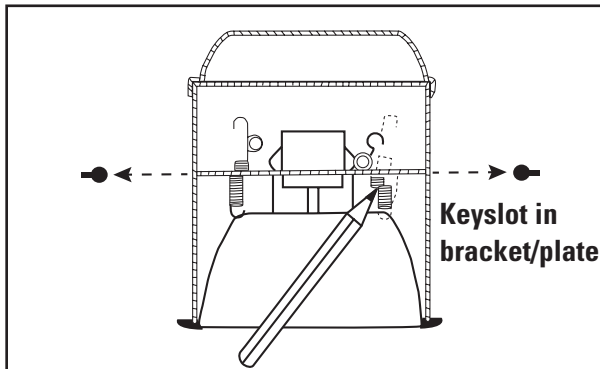

Figure 2.
1. Position trim in place. (Figure 2.)
1. Positionnez la garniture en place. (Figure 2.)